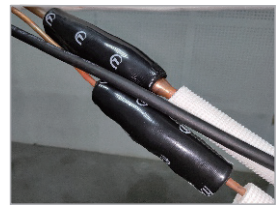

Fig.5
- Wrap up the quick connectors with the sound deadening pads, pack down the pads solid as tightly as shown in Fig. 5.